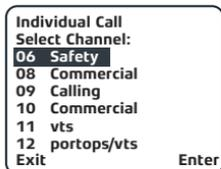

Figure 19
5. For Individual and Group Calls select a suitable channel from the list provided then press Enter (fig 19).